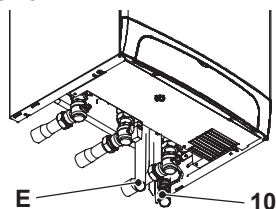

Fig. 6.4
- Connect the pipe E (Fig. 6.4) from the pressure relief valve to the safety discharge pipework.
- Fit the condensate drain 10 (Fig. 6.4) in the air brake connected to the drainage pipe-work. See also section "Condensate drain" to page 28.